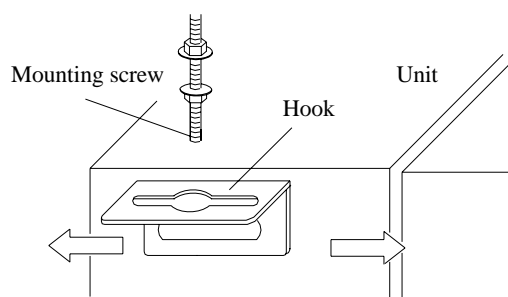

Fig. 11-3
- 2) Install the hook to indoor unit. See Fig. 11-3.